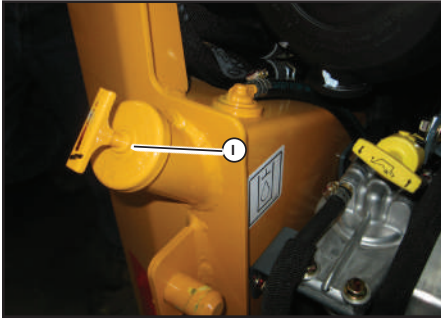
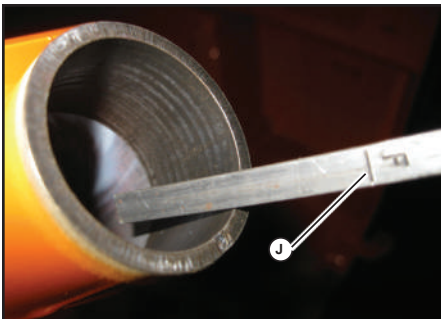

Fig. 69 - Hydraulic Oil Dipstick and Fill Neck
Fig. 70 - Hydraulic Oil Level FULL Mark on the Dipstick
The machine has a dipstick (I, Fig. 69) located in the engine compartment. Check the fluid level with the lift arm lowered and the attachment on the ground.
5. Check the level of the hydraulic oil on the dipstick (J, Fig. 70)
9. Remove hydraulic dipstick/oil fill cap (I, Fig. 69) and add hydraulic oil until the level reaches the FULL marking (J, Fig. 70) on the dipstick.